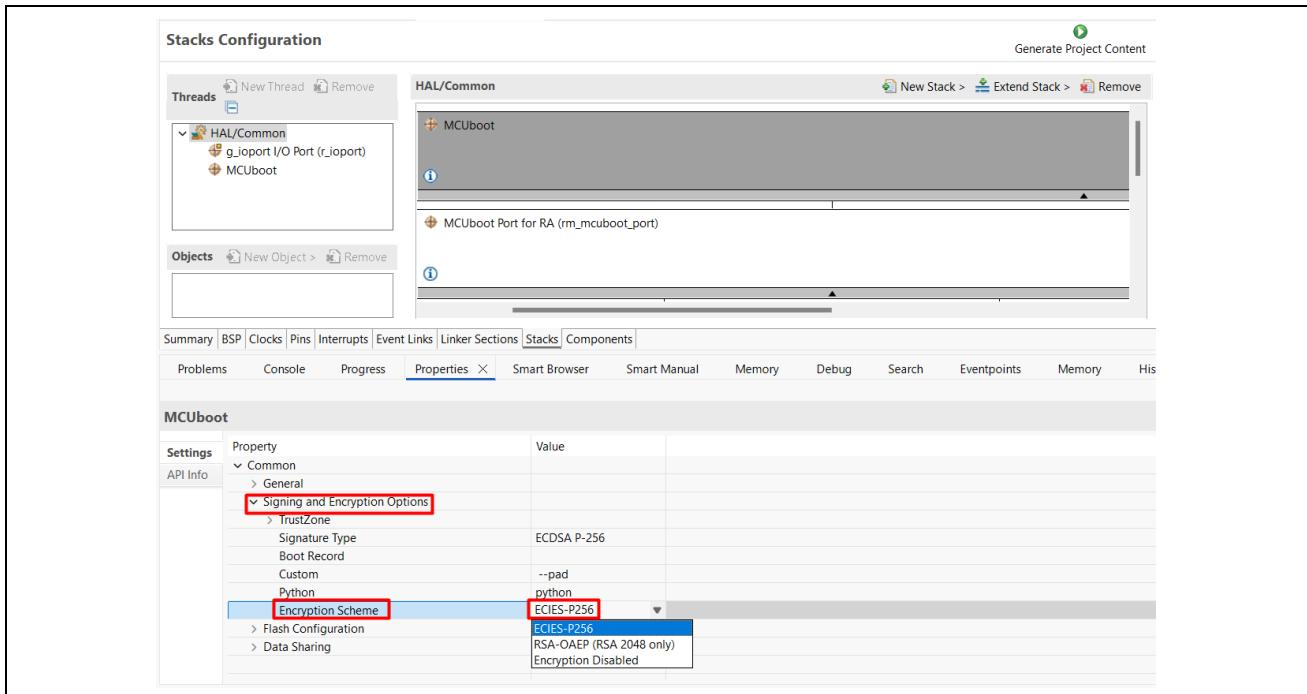

Figure 25. Choose ECIES-P256
2. Navigate to the **Stacks** tab, select **MCUBoot** stack, and in the **Properties** panel set the **Encryption Scheme** to **ECIES-P256** as shown in Figure 25.